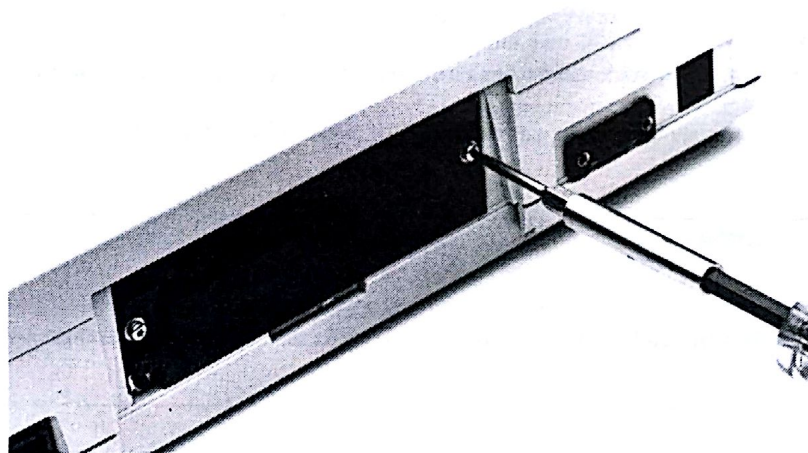

Figure 6-2. Removing the Battery Terminal Cover
2. Remove the battery terminal cover by removing the two screws and washers (figure 6-2).